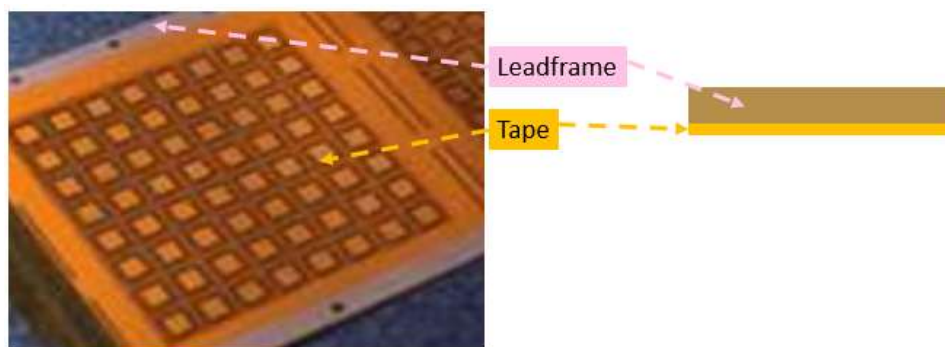

Fig 1. Example of leadframe semiconductor carrier.
Driven by the direction for smaller devices, the development of thinner version of leadframe become one of the key contributor for miniaturization. Leadframe semiconductor carrier or just leadframe shown in Fig. 1 is the metal structure inside semiconductor integrated circuit (IC) device which carry the signal from the silicon die to board level application. During IC assembly, the backside of the leadframe is attached to polyimide tape which supports the frame/carrier during front-of-line processes such as the die attach, wirebond process.